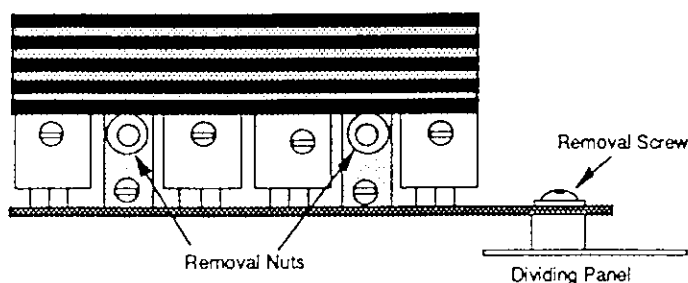

Figure 5 - Removing the Analogue PSU Assembly
- (5) With reference to Figure 5 below, locate the two nuts that hold the assembly to the main frame of the receiver. Remove nuts and washers using a nut driver.